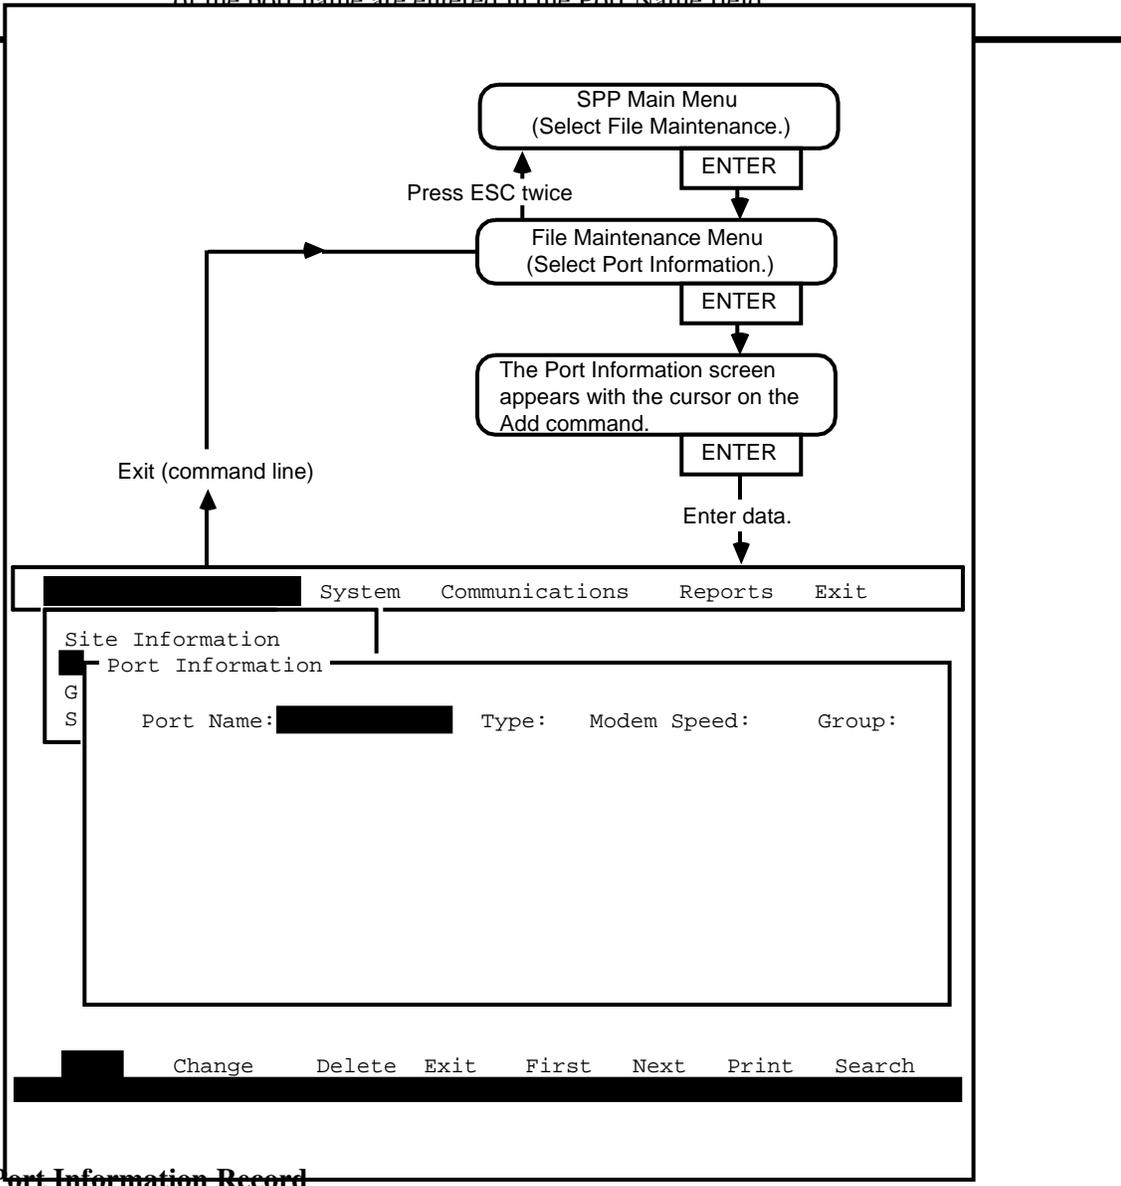

Fig. 3-5
3.15 To create a port information record (see Fig. 3-5), proceed as follows: